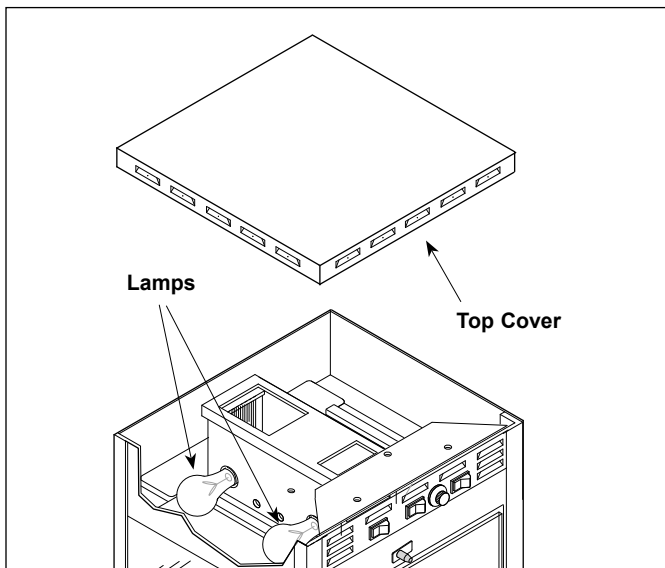

Figure 3. Lamp Replacement
3. Remove the Top Cover (Figure 3).
4. Replace the Lamp(s) (Figure 3).